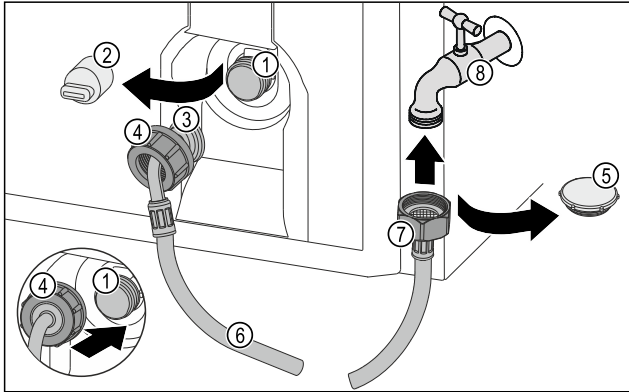

Fig. 44
- Remove the closure cap Fig. 44 (5).
- Place the straight end of the hose Fig. 44 (7) on the tap Fig. 44 (8).
- Tighten the nut at the straight end of the hose Fig. 44 (7) in a clockwise direction.